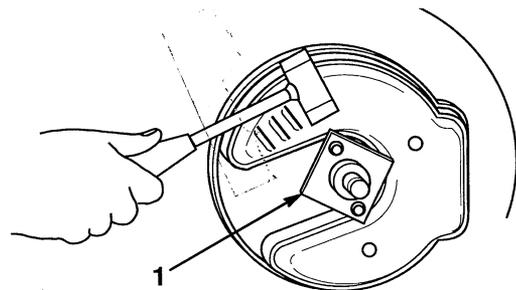

Figure 32
5. Remove blade driver by tapping with plastic or fiber hammer in the direction of rotation (Fig. 32). This will loosen the blade driver from taper on crankshaft.